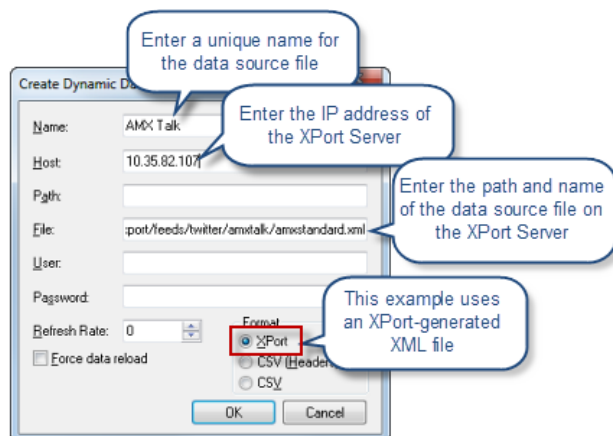

FIG. 187 Create Dynamic Data Source dialog with Example data (amxstandard.xml)
1. Open the Resource Manager to the *Dynamic Data Sources* tab and click **New** to open the *Create Dynamic Data Source* dialog (FIG. 187):